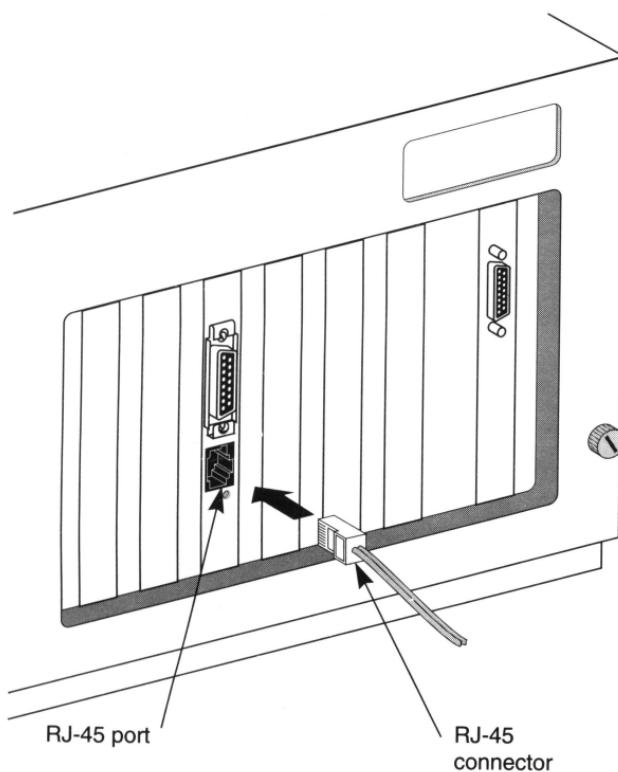

Figure 5-3. Connecting Twisted-pair Cable
- 3. Insert the RJ-45 plug into the adapter socket, as shown in Figure 5-3.**